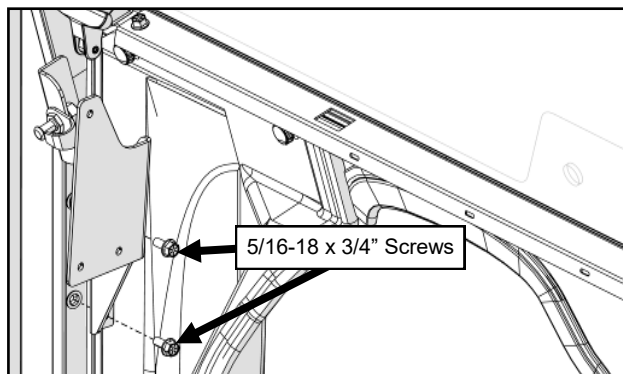

Fig. 16.1 (Install Heater Bracket to Side Frame)
16.1 Attach the heater bracket to the left side frame. See Figure 16.1. Fully tighten hardware at this time.